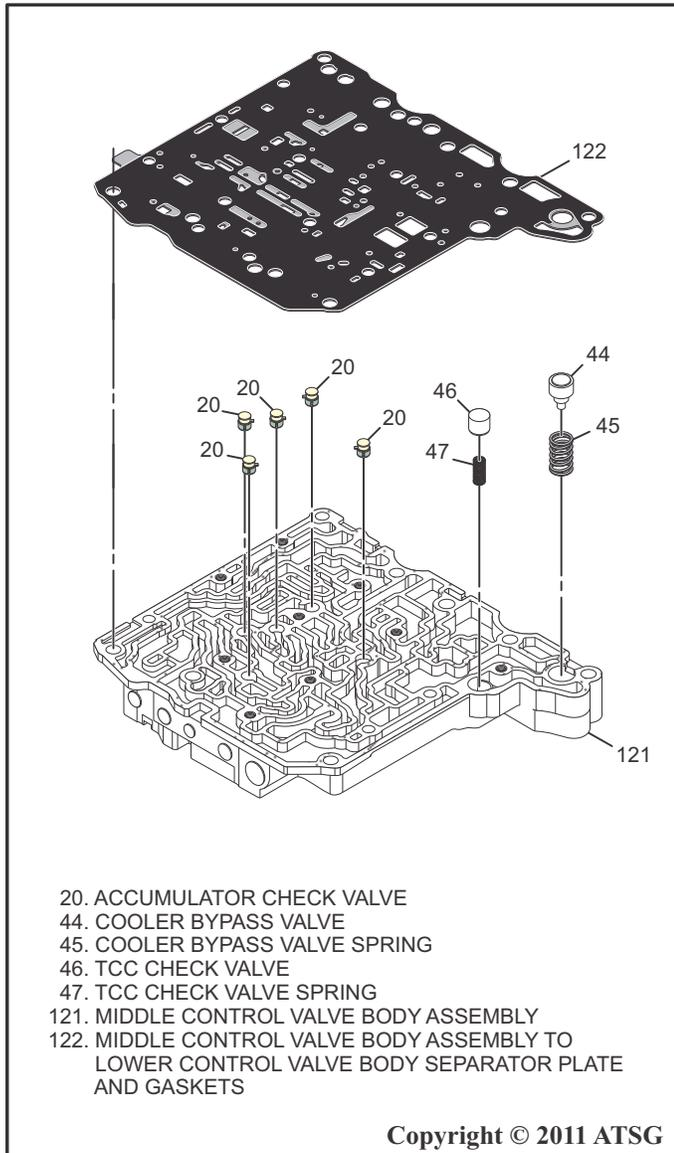

Figure 161
16. Lift and remove the middle control valve body to lower control valve body separator plate with gaskets away from the middle control valve body assembly as shown in Figure 161.
17. Remove the cooler bypass valve and spring, the tcc check valve and spring and the five accumulator check valves as shown in Figure 161.